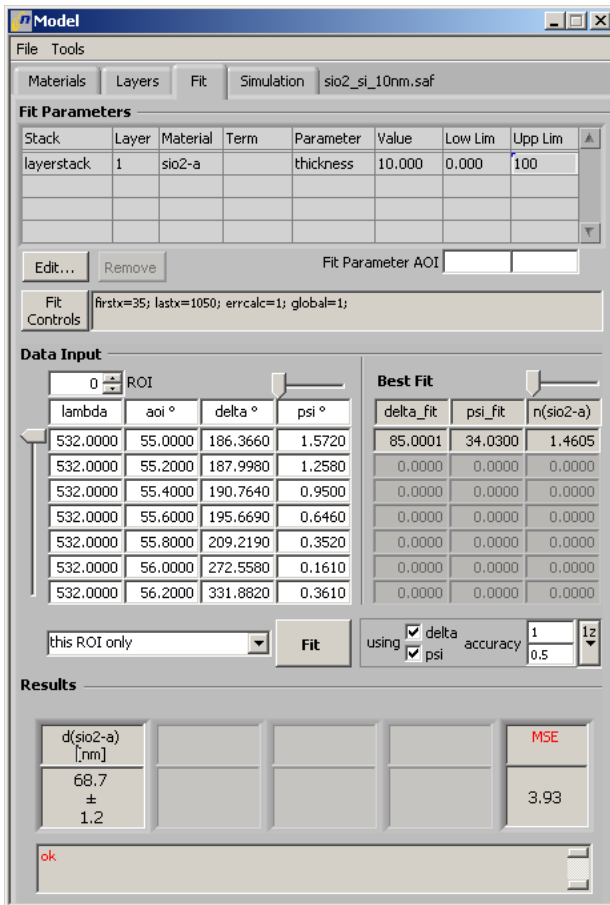

Fig. 4.4-6
- The selected lines appear in the window “Model“ (see Fig. 4.4-6)